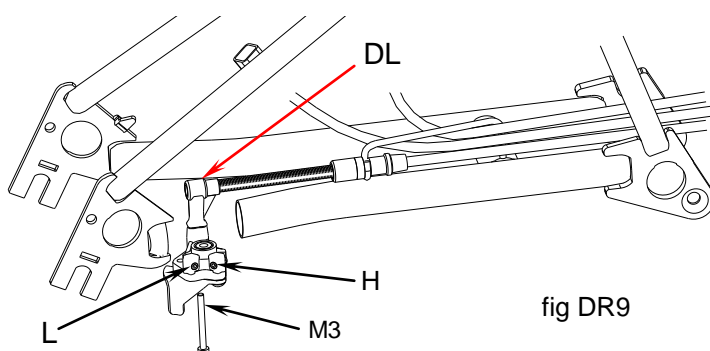
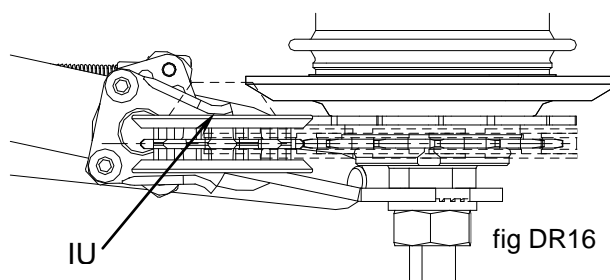

fig DR9
fig DR16
2. With the derailleur trigger down (in low gear), remove the M3 x 30 screw (fig DR9, below). Because the wheel is so close, this can be a bit awkward: life is easier if you remove the rear wheel.
5. Feed the M3 screw through the chain pusher body, and into the dogleg DL (fig DR9, below), and do it up. Do not overtighten the screw, and when it reaches the end of its travel, **back it off one full turn**: the dogleg should not be clamped tight against the CHPUA. Check that the CHPUA can still rotate freely.
Use the stop screws, fig DR9, on the chain pusher. The idea is that, in high gear, the inner face of the inner upright IU, fig DR16, shall be as close as possible to the idler wheel, without any rubbing pressure while the idler rotates (to give the slickest change with minimum wear): when the setting is right, you should just be able to see daylight between the two while turning the cranks *forwards*, perhaps with occasional contact. Use a 2mm hex key in the forward stop screw H for adjustment.